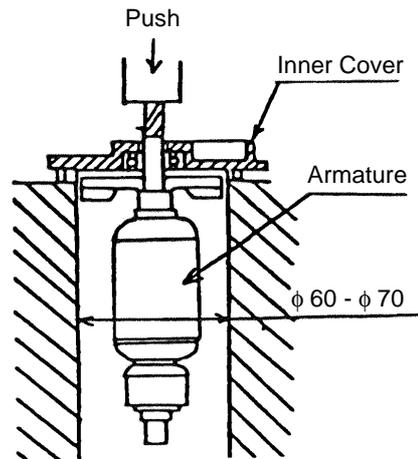

Fig. 3
(1) Loosen the M4 x 50 (+) -Hd. Tapping Screws (8) and the M4 x 35 (+) -Hd. Tapping Screws (7) which retain the Gear Cover (9), and remove the Gear Cover from the Housing (18). Then, remove the Inner Cover Ass'y (11) and the connected Armature Ass'y (14) from the Housing.
(2) Remove the Armature Ass'y from the Inner Cover Ass'y:
As illustrated in Fig. 3, support the Inner Cover Ass'y (11) with a tubular jig, and push down on the tip of the pinion gear on the Armature Ass'y (14).